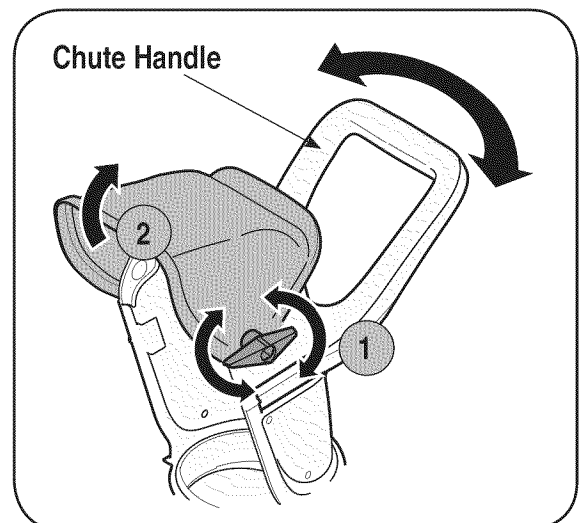

Figure 3
6. Loosen the chute knob on the upper chute(1) and pivot the upper chute upwards(2) as far as it will go. See Figure 3.
7. Rotate chute handle to desired operating position. See Figure 3.